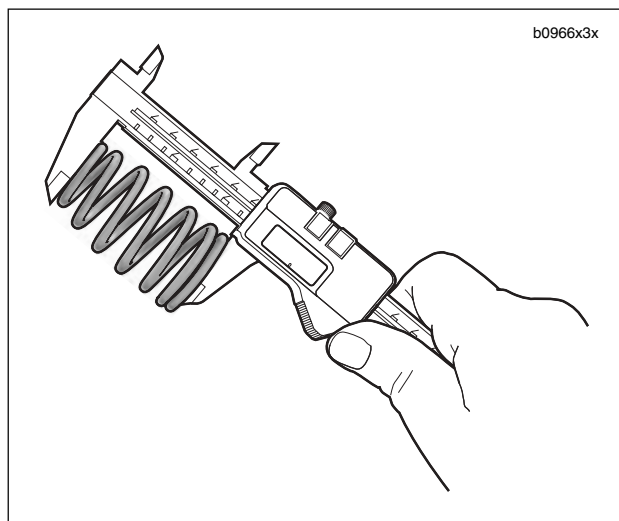

Figure 3-74. Checking Spring Free Length
2. See Figure 3-74. Check free length and compression force of each spring. Compare with 3.1 SPECIFICATIONS. If spring length is shorter than specification or if spring compression force is below specification, replace spring.